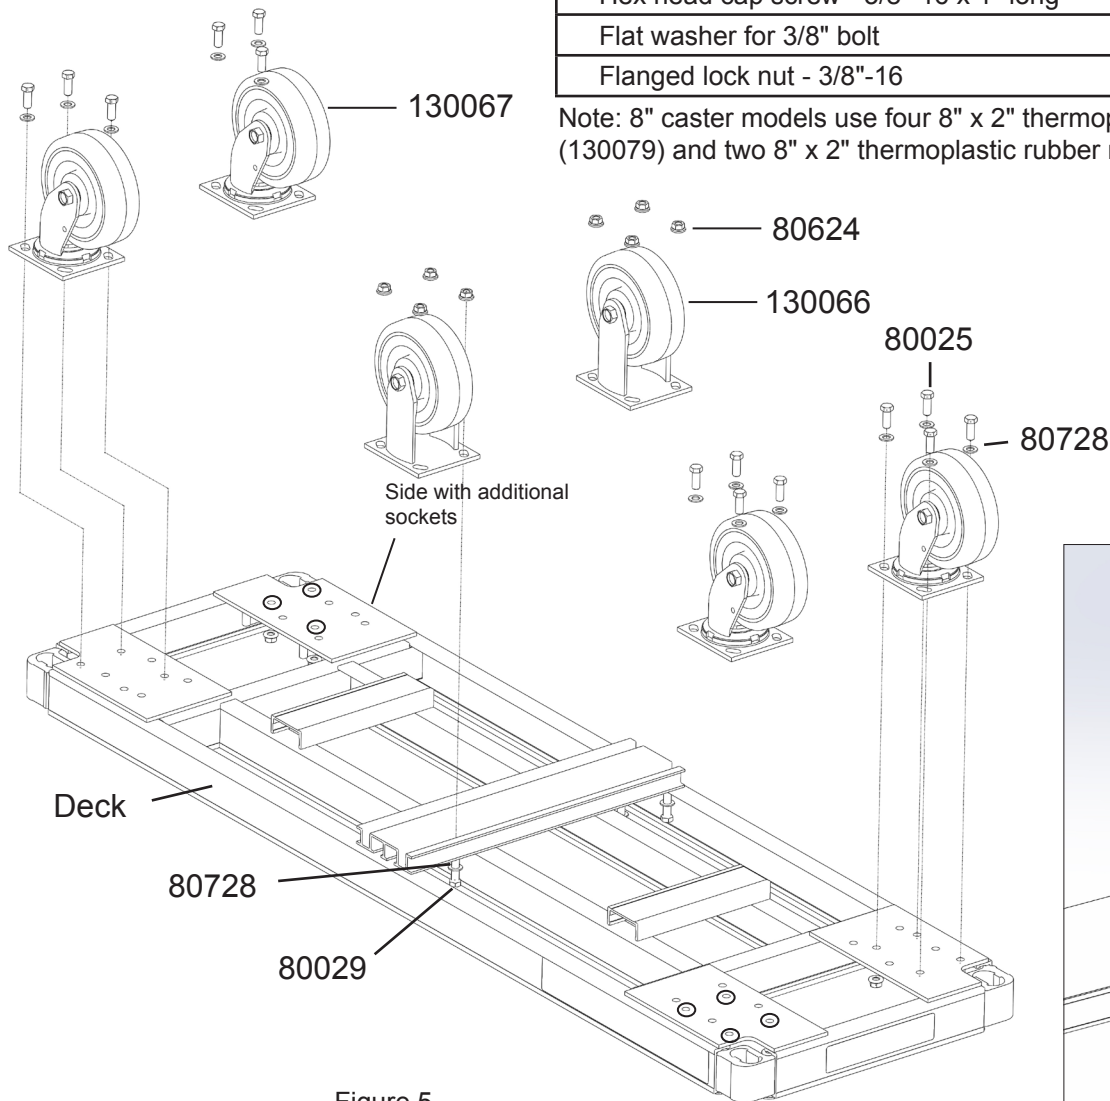

Figure 5
1. Using the 3/8"-16 x 1" long hex head screws, 3/8"-16 flat washers and 3/8"-16 flanged hex lock nuts, attach all four of the 6" swivel casters onto the deck as shown in Figure 5.
2. Using the 3/8"-16 x 2" long hex head screws, the 3/8" washers and the 3/8"-16 flanged hex lock nuts, attach both of the 6" rigid casters onto the deck as shown in Figure 5.